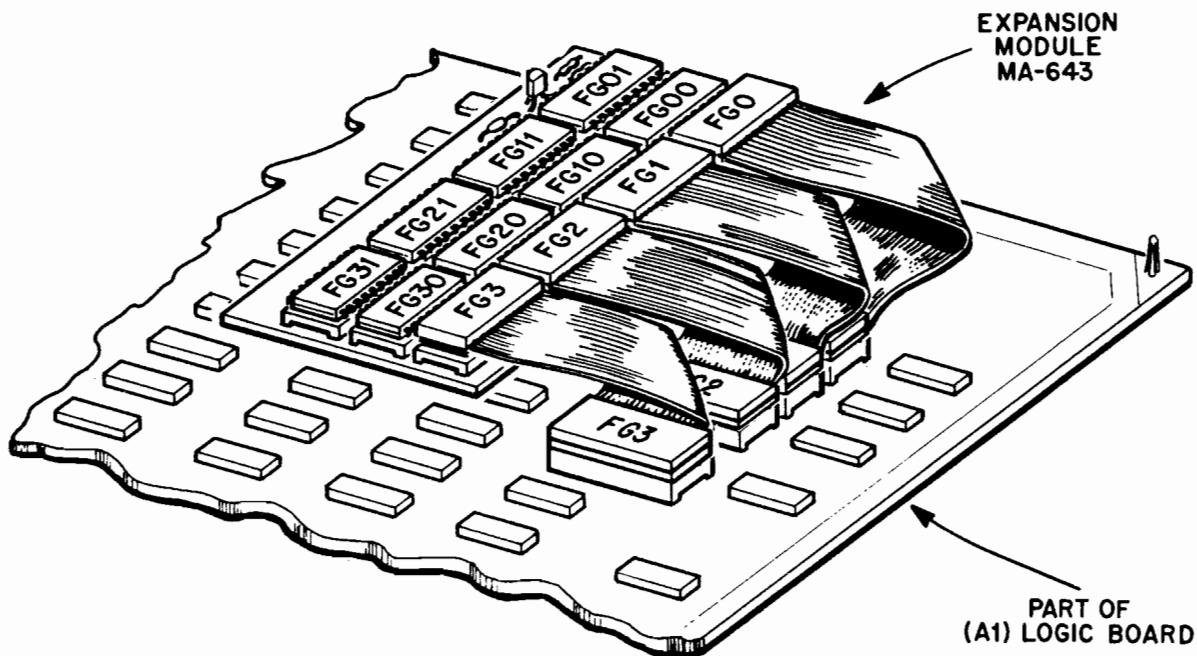

FIGURE 1.
2. THE FOREGROUND OBJECT ROM (EXPANSION MODULE, MA-643) CONSISTS OF FOUR SERIES PAIRED 2764'S WHICH HAVE THE SUM EQUIVALENT OF DOUBLING THE MEMORY CAPACITY REQUIRED FOR THE Q\*BERTS QUBES (GAME GV-119). THE LOGIC PROM KIT UTILIZED IS PK-119. SOUND PROM KIT USED IN THIS GAME IS PKS-119. SEE FIGURE 1. FOR LOCATION OF THE EXPANSION MODULE AND FIGURE 2. FOR THE SCHEMATIC DIAGRAM. THIS CIRCUIT MODIFICATION REPLACES THE K4, K5, K6 AND K7-8 PORTION OF LOGIC BOARD ASSY.(A1), SCHEMATIC DIAGRAM BOTTOM OF PAGE 21, SHEET 3 OF 3.